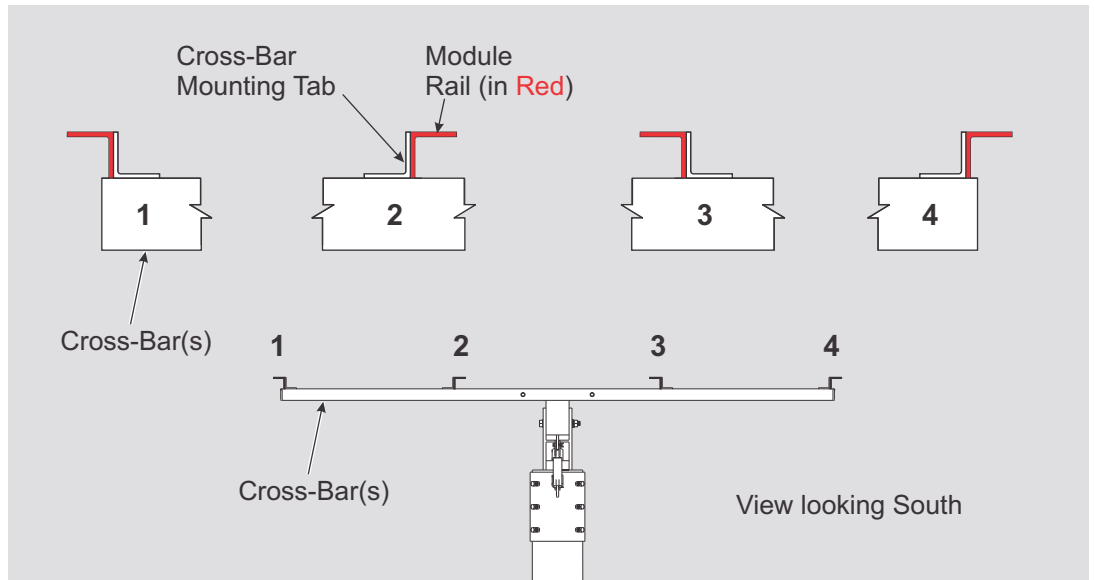
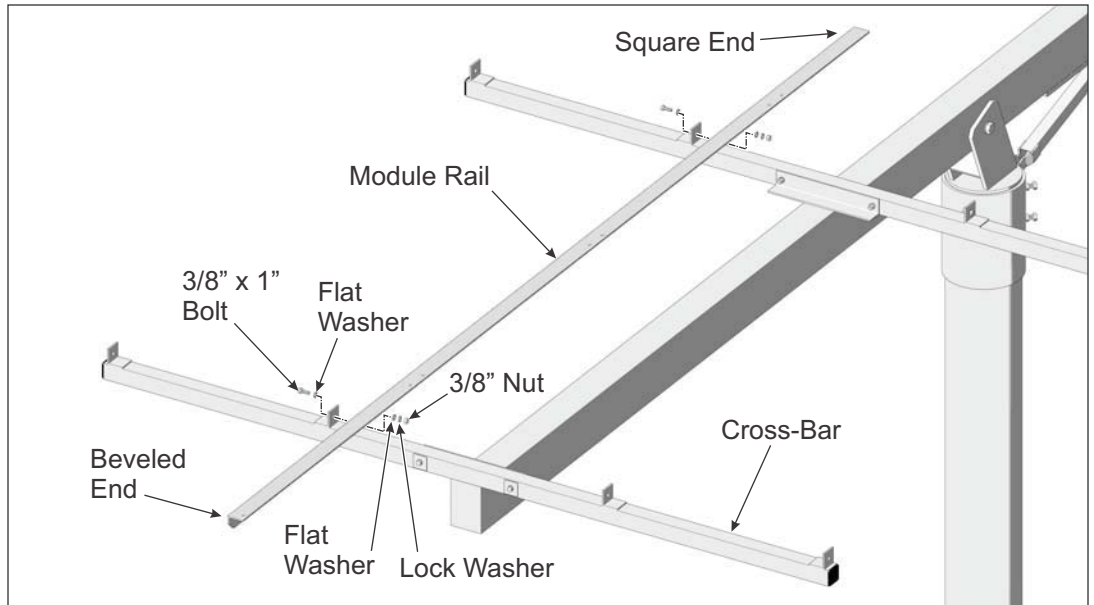

Figure 4-1: Orientation of Module Rails to Cross-Bars
Figure 4-2: Installing southern inboard Module Rail to Cross-Bars
The Cross-Bars have six locations where Module Rails are attached. At each of these locations, two Rails are installed and butt jointed using Splice Plates. Splice Plates are positioned on the outside of the Module Rails (See Figure 4-1) and secured using 3/8" x 1" bolts and hardware. There are six Splice Plates to install.
Additionally, Module Rails are installed differently depending on where they are located on the Cross-Bars and the orientation of the mounting tabs of the Cross-Bars. Follow these instructions carefully for the correct orientation. (See Figure 4-2)
- A. Referring to Figure 4-1 for orientation of the Module Rails, position the first section of inboard Module Rail in the southern position on the Cross-Bars. Align the Module Rail mounting holes with the holes of the Cross-Bar mounting tabs and secure with 3/8" x 1" bolts and hardware. Finger-tighten for now. (See also Figure 4-2)
Continue in this manner and install all remaining Module Rails (ten more) while being mindful and following Figure 4-1 for proper orientation of the Rails to the Cross-Bar mounting tabs.